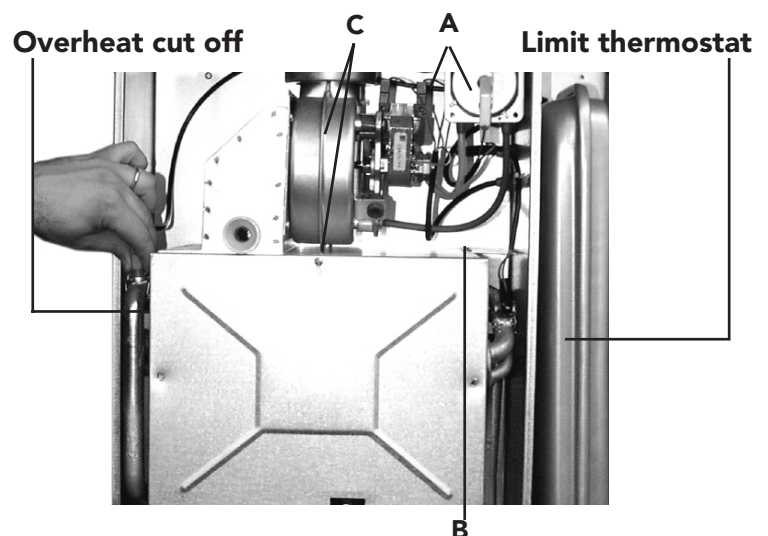

Fig. 36
7.10 Removal of fan (fig. 36)
7.11 Limit thermostat, or overhear cut off thermostat (fig. 36)